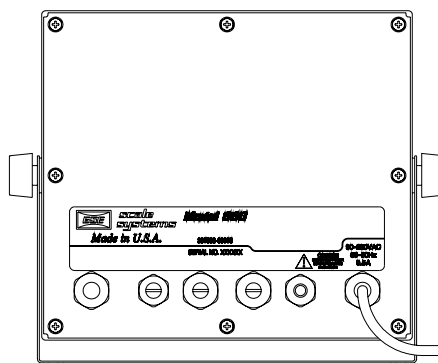

Figure 2-6: 660, 661 and 662 Rear Panel
3. Using a #2 cross-tip (Phillips) screwdriver or an 8mm socket, remove the eight 8-mm hex head screws from the rear panel (see Figure 2-6).